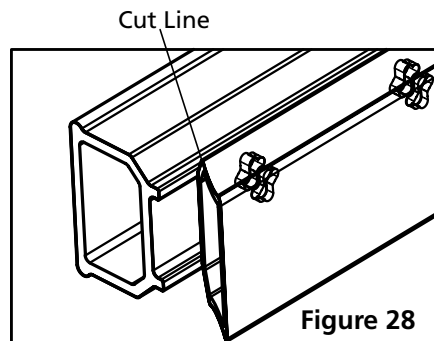

Figure 28
6. Place the top rail next to the bottom rail with the marked ends together. Using the bottom rail as a guide, center the routed holes in the top rail with the routed holes in the bottom rail. Mark the cut lines on the top rail (Fig. 28).